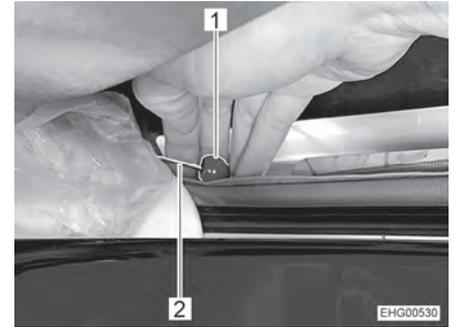

Fig. 58 Emergency release
- Pull the red button (Fig. 58,1) of the cable control (Fig. 58,2) on both sides.